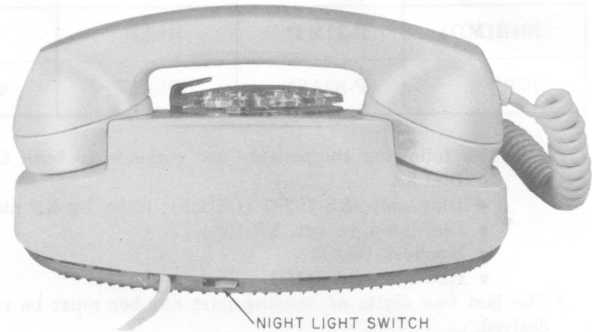

Fig. 2—700-Type Telephone Set, Rear View
2.01 These sets are equipped with a concealed lamp which illuminates the dial when the handset is removed. This lamp also serves as a night light under control of a slide switch located in the base at rear of set (Fig. 2).